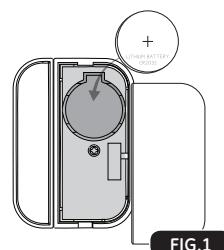

FIG.1
INSTALLING BATTERY [FIG.1]
2. Turn transmitter over and push tab in and up to remove battery door [FIG.1].